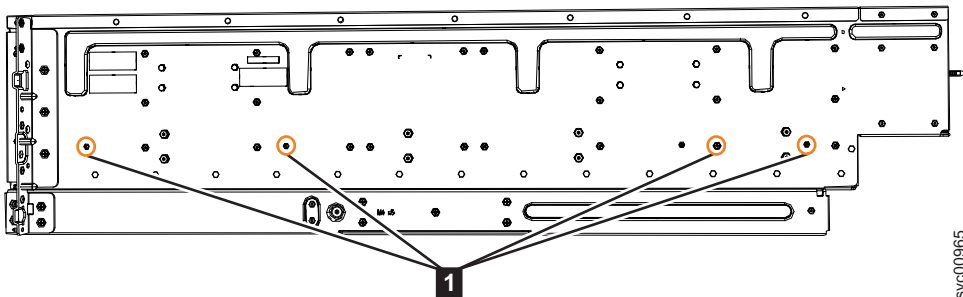

Figure 53. Screw locations to attach the inner rail to the enclosure
4. Use four M4 screws to attach the inner rail to the side of the enclosure. Figure 53 shows the screw locations.